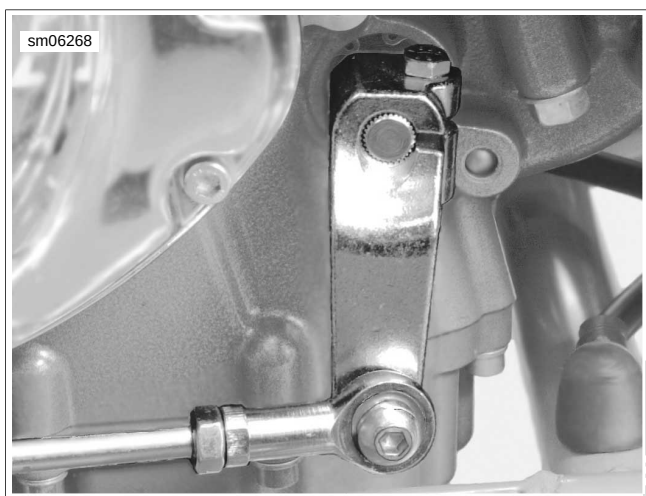

Figure 2-17. Shifter Arm Perpendicular to Frame Rail
16. See Figure 2-17. Install shifter arm perpendicular to frame rail for correct operation. Tighten clamp bolt to 14-16 Nm (132-144 **in-lbs**).